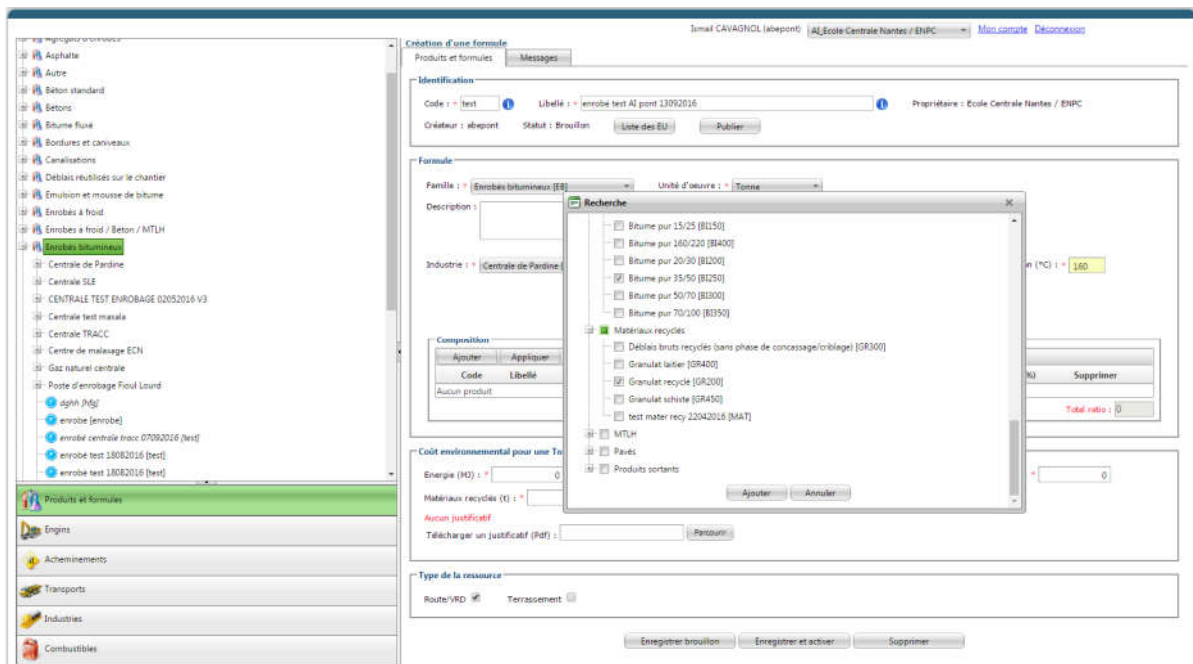

Figure 27 – Insertion of the different products composing the asphalt formula
- 9- In the "Composition" table, Click on "Add" in order to add components to the formula, a pop-up must open up. (Figure 27)